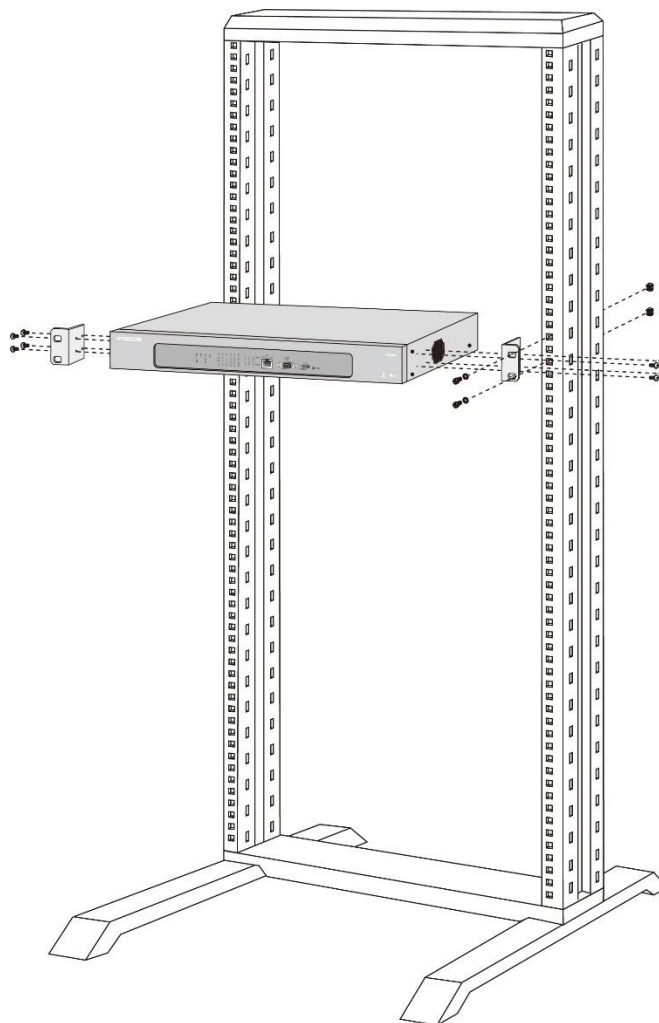

Figure 6.17-1 WTIM24 Rack Mounting Installation
- 1) Mount the left and right mounting brackets to the WTIM24 module using the eight (8) machine screws provided as shown in figure 6.17-1.
- 2) Mount the Module in the 19" rack with the four (4) machine screws, nuts and washers as shown in figure 6.17-1.